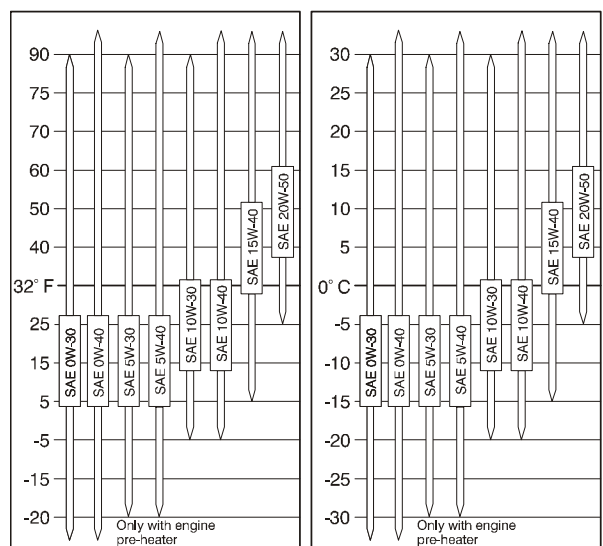

Figure 3-100. Engine Oil Viscosity
8. Refer Section 1 for capacity and refer to Figure 3-100, Engine Oil Viscosity for the proper grade.